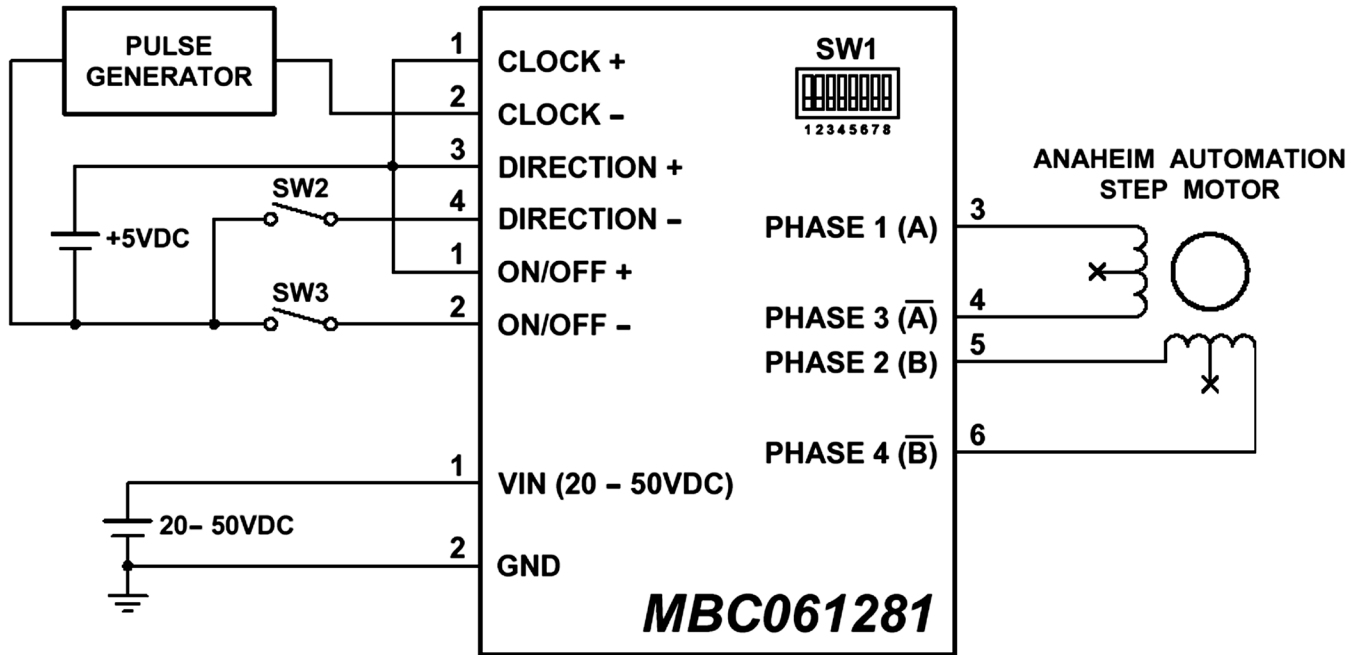
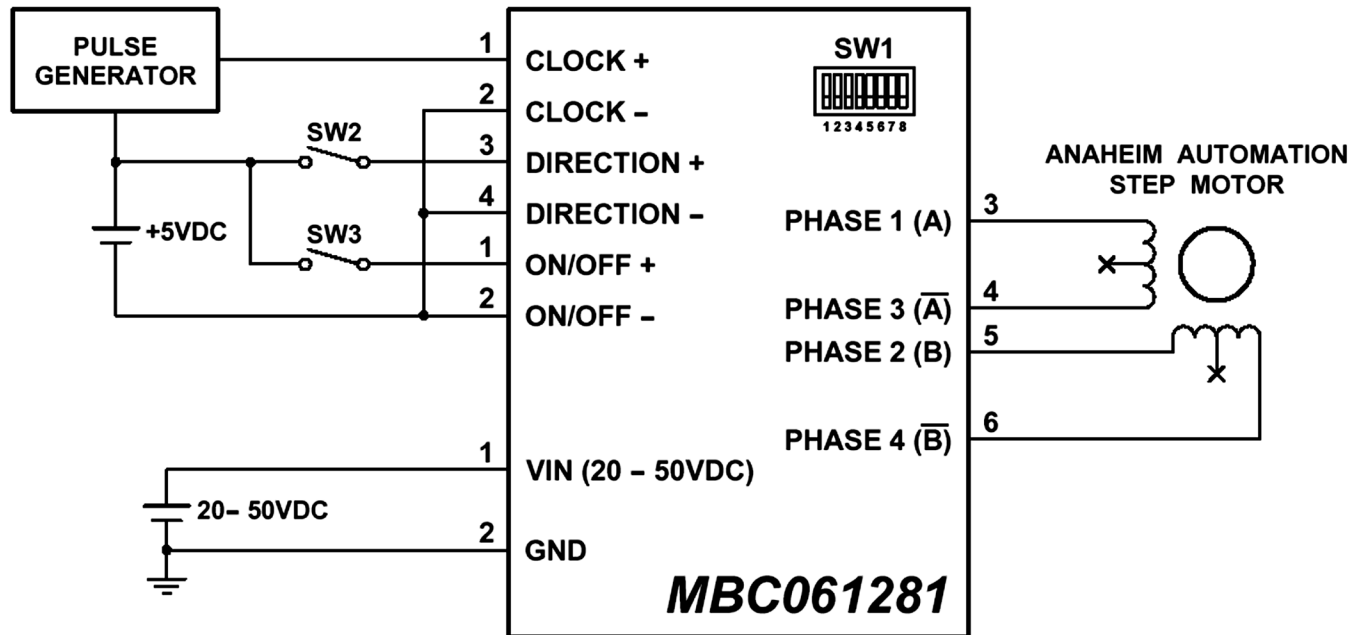

Figure 1: Hook up for current sinking inputs
Figure 2: Hook up for current sourcing inputs
The inputs on the MBC061281 are optically isolated with the anode (+) and cathode (-) both brought out to the user. With no current going through the opto-diode, the input is considered high. To enable the input a minimum of 7.0 mA needs to be sourced or sunked through the opto-diode. This is done simply by placing a voltage of +5VDC across the two inputs of the opto-diode. If sourcing current into the inputs, then all three cathodes (-) should be tied together and grounded as shown in Figure 2. If sinking current, then all three anodes (+) should be tied together to the +voltage as shown in Figure 1.
Phase 1 (A) and 3 (A) of the Step Motor is connected between pins 3 and 4 on the motor connector (TB3). Phase 2 (B) and 4 (B) of the Step Motor is connected between pins 5 and 6 on the motor connector (TB3). Refer to Figures 1 and 2 for TYPICAL APPLICATION HOOK-UP.
**NOTE:** The physical direction of the motor with respect to the direction input will depend on the connection of the motor windings. To reverse the direction of the motor with respect to the direction input, switch the wires on Phase 1 (A) and Phase 3 (A).